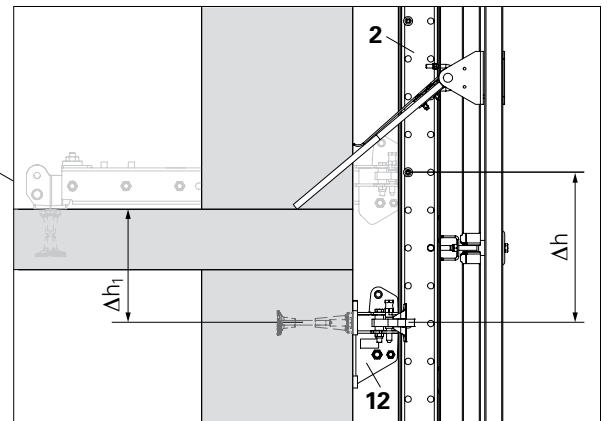

Fig. B4.02a
Slab Shoes and Rail Guidance Shoes must be in the same vertical system grid. For this, the suspension of the Rail Guidance Shoe (12) is height-adjusted by  $\Delta h$  in 125 mm increments to the top edge of the slab. (Fig. B4.02a)